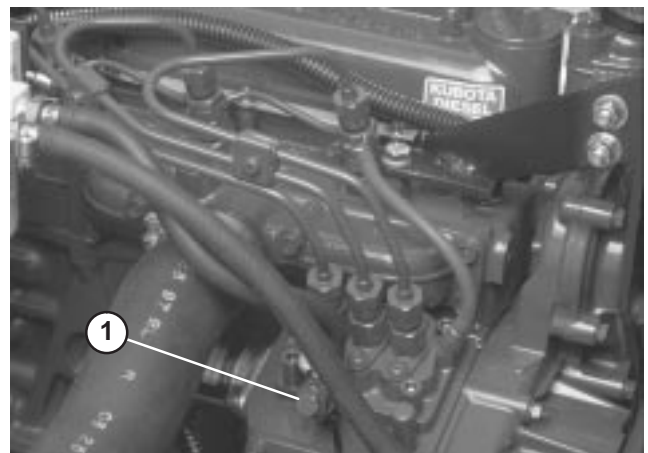

Figure 30
3. Open the air bleed screw on the fuel injection pump (Fig. 30) with a 12 mm wrench.